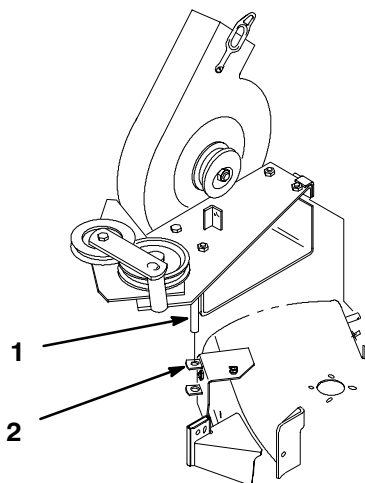

Figure 27
2. Remove the blower by lifting the pivot pin out of the pivot support (Fig. 27).